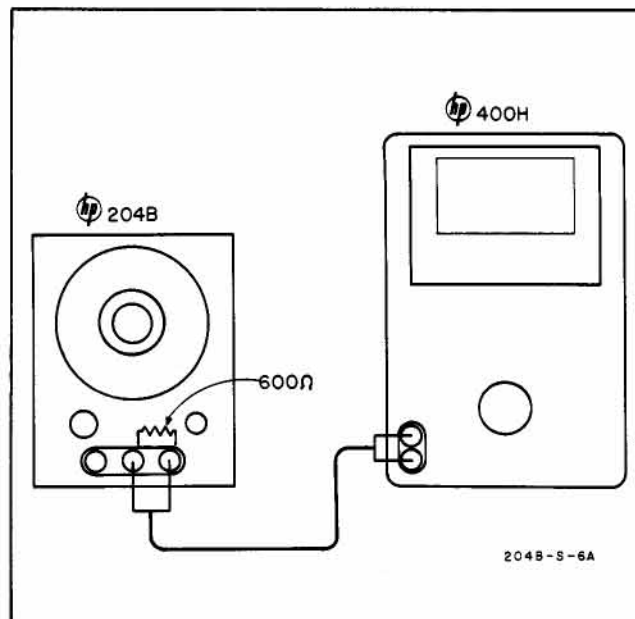

Figure 5-2. Test Setup for Frequency Response and Output Voltage Check
a. Connect ac voltmeter and 600-ohm load to oscillator output as shown in figure 5-2.